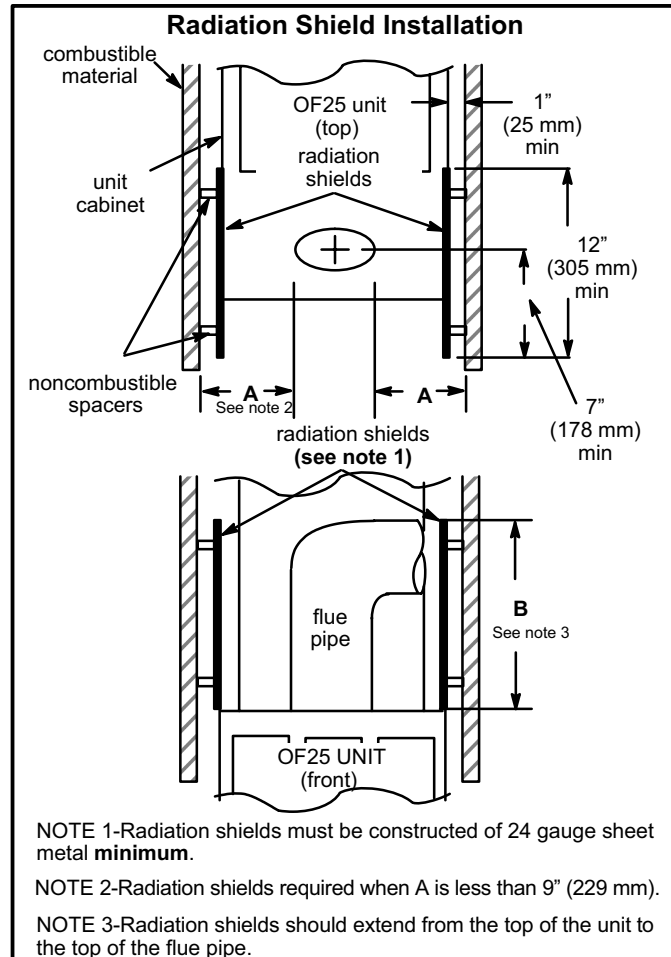

Figure 16
**When smoke pipe is installed at less than minimum clearance listed in table 2, radiation shields must be installed. See figure 16.**